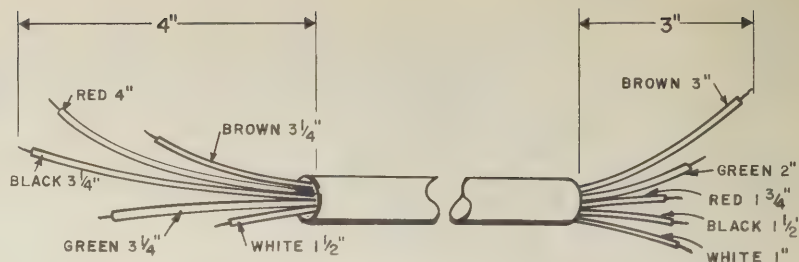

FIGURE 6. PREPARATION OF THE 5-CONDUCTOR CABLE
- ☒ 5-conductor cable. Remove 4" of the jacket from one end of the cable and 3" from the other. Prepare the cable as shown in Figure 6.